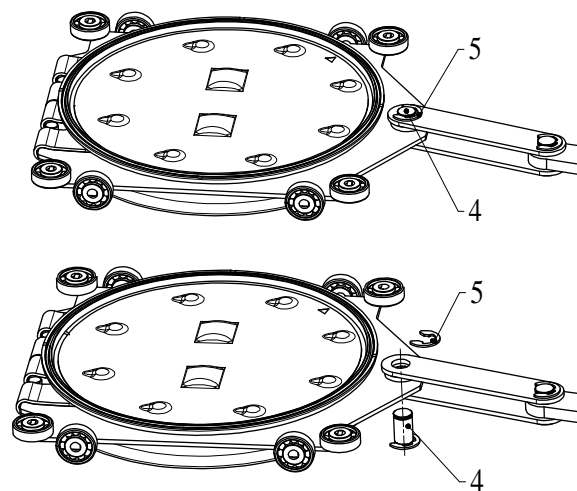

Figure 6-2
6. Remove locking ring (5) according to «Figure 6-2» on page 15.
7. Withdraw bolt (4) by pulling it downwards according to «Figure 6-2» on page 15.
13. Mount bolt (4) according to «Figure 6-2» on page 15.
14. Mount locking ring (5) according to «Figure 6-2» on page 15.